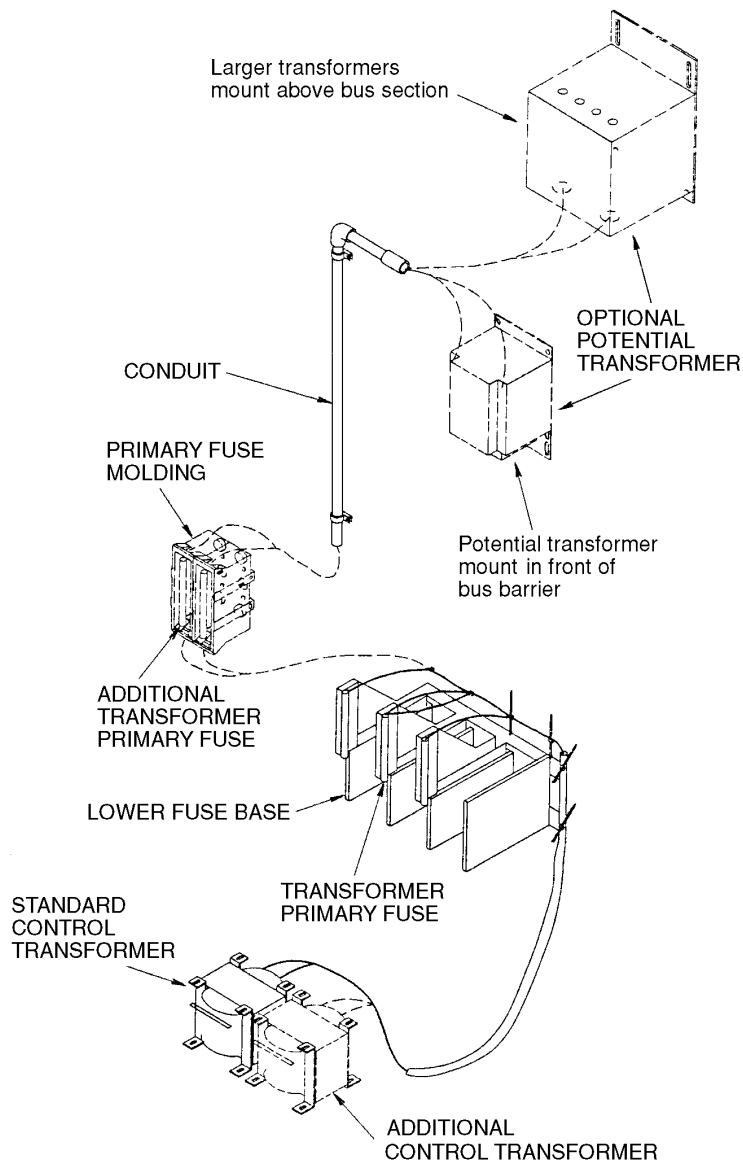

Figure 21 Routing the Transformer Primary Leads
7. Route transformer primary leads as shown in Figure 21 on the next page.